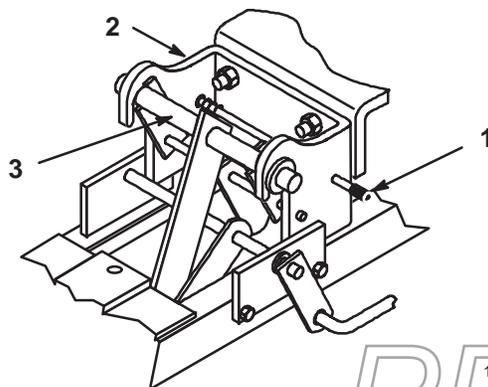

Figure 15
- Push in on the front hitch release rod to open the hitch and remove blade lift arm (Fig. 15).
- Remove hairpin cotter and clevis pin from idler pulley assembly, unhook and remove (Fig. 15).